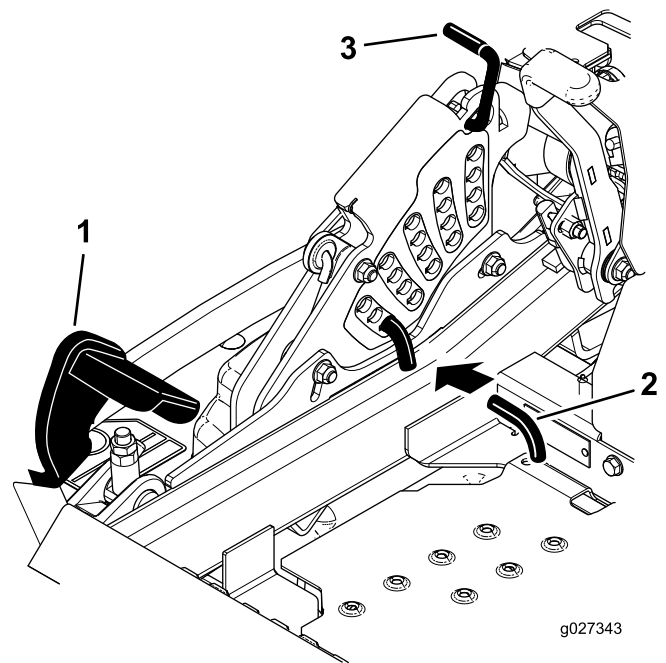

Figure 113
5. Push the deck-lift pedal all the way forward and the deck latches at the 14 cm (5-1/2 inches) transport position (Figure 113).